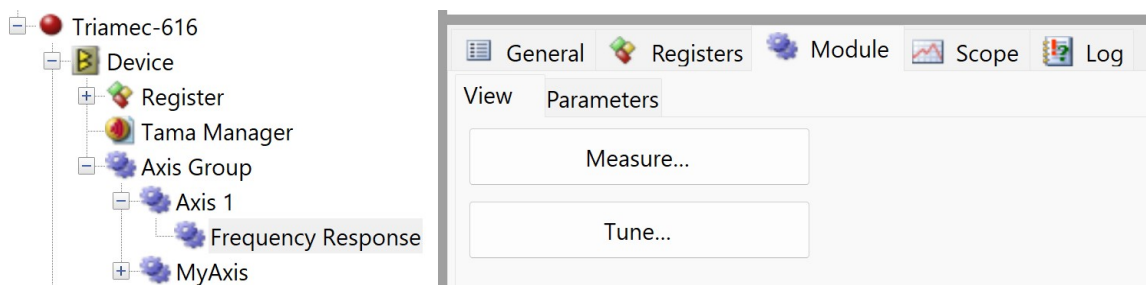
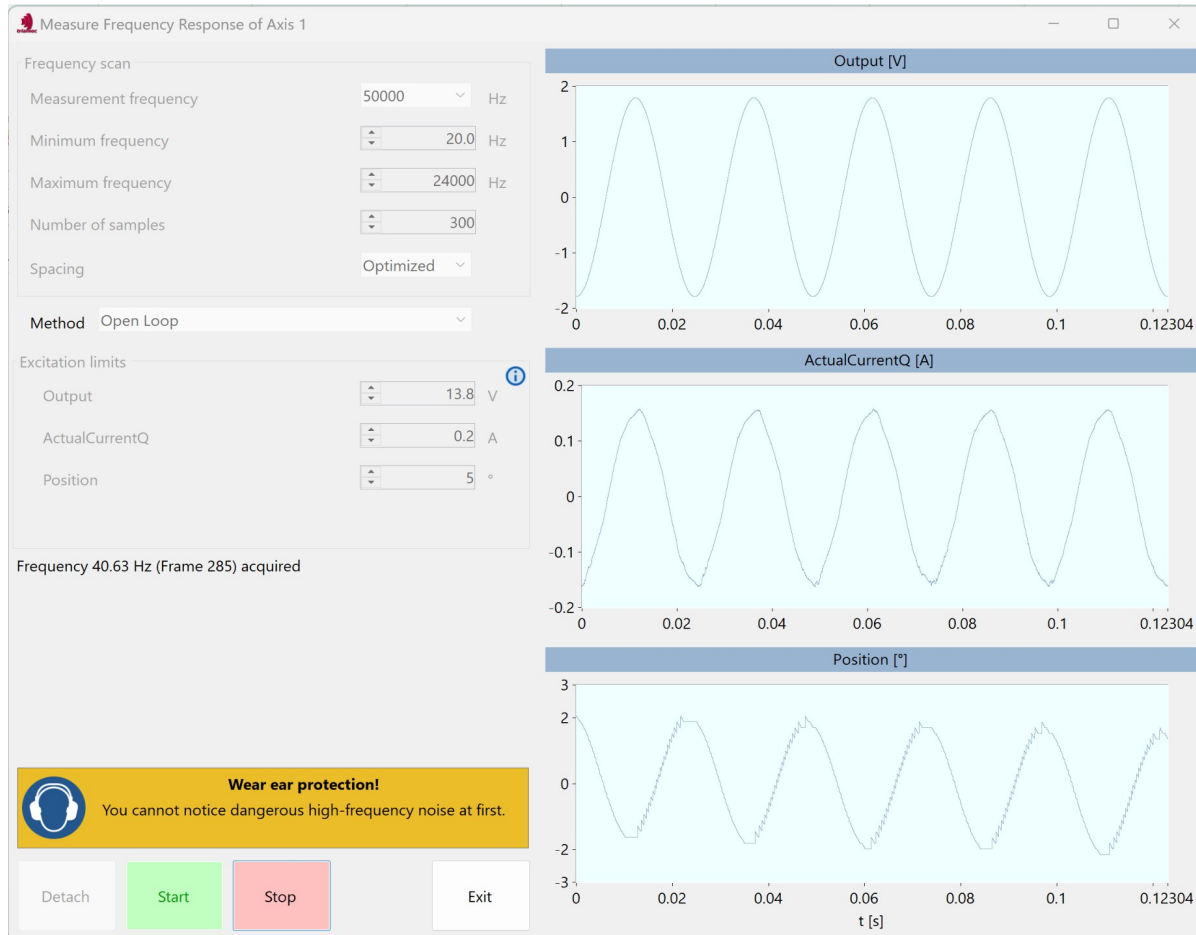

Figure 33: Frequency Response module.
Figure 34: Frequency Response measurement application.
To start the measurement click the **Measure...** button (Figure 33). This opens the window with the application as shown in Figure 34.
- To open measurements in the editor click **Tune Controllers...** (Figure 33).